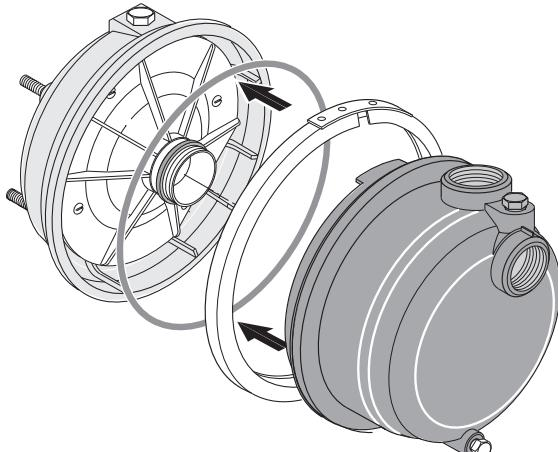

**Figure 28 – Tap Clamp While Tightening**
3. **BE SURE** inside of clamp is clean. Place clamp on pump halves; snug up. Alternately tighten nut and tap clamp with mallet to seat O-ring (see Figure 28).